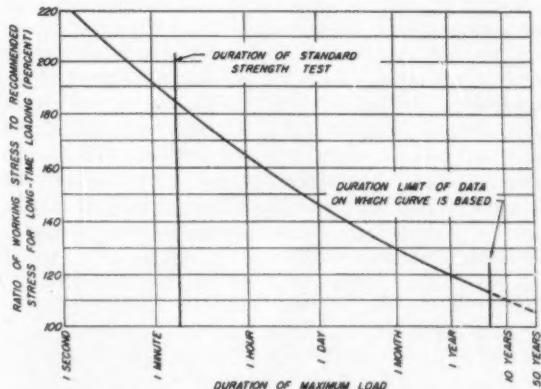

Fig. 3 Relation of working stress to duration of lead
test values are based on short-time loading, they are reduced to long-time loading conditions in structures by applying a factor of $\frac{1}{16}$. The long-time loading stress is then subject to increase for some short-time or intermittent loading conditions (Fig. 3). An increase of 10 percent above the long-time loading stress level is recommended by the lumber industry; it presumes that the continuous or cumulative duration of full design load will not exceed a period of about 10 years during the life of a permanent structure. Larger increases are sometimes made for shorter durations, such as for snow, wind, or earthquake loadings. Stresses for house framing lumber as prescribed by the Federal Housing Administration (2) recognize a 10 percent increase above the long-time loading, but not the larger increases for snow, wind, or earthquake loadings.